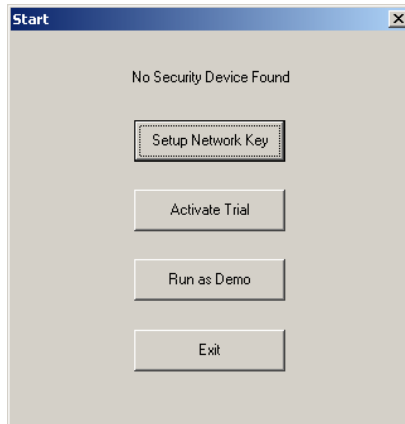

Figure 2-5. The Start Screen
3. Complete the instructions shown in the *Service configuration* dialog box in Figure 2-5 on page 2-7 and click **Create Service**.
2. Start MAGNET Office and click **Setup Network Key** (Figure 2-5).